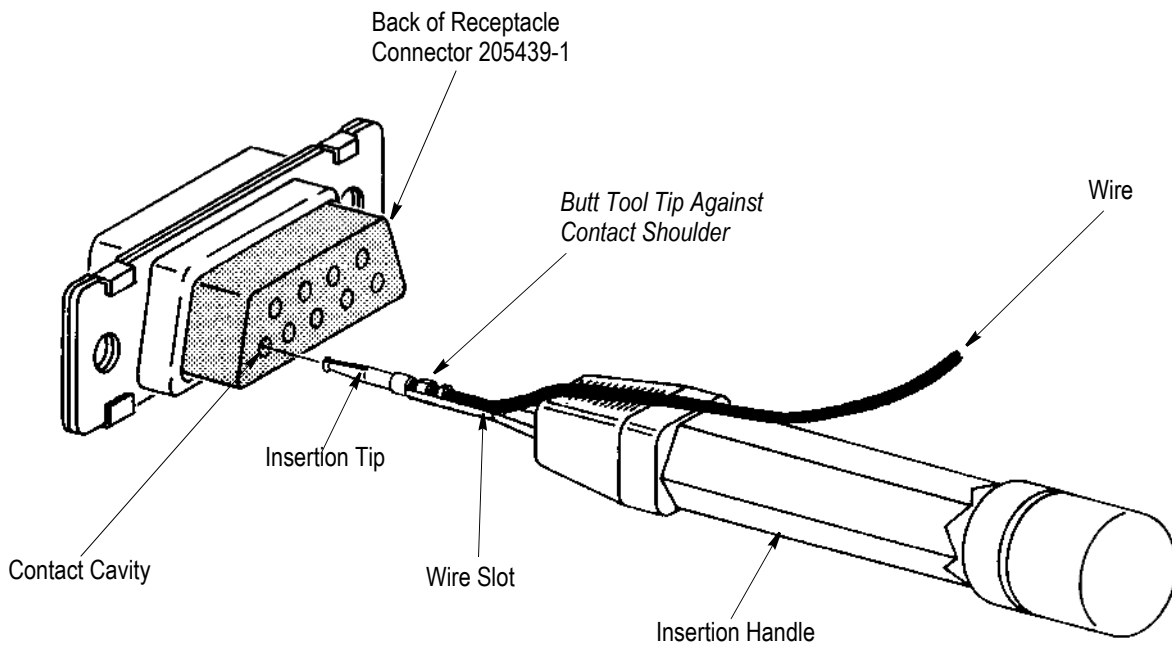

Figure 3
**4.1. Inserting A Wire Crimped Contact** (Figure 3)